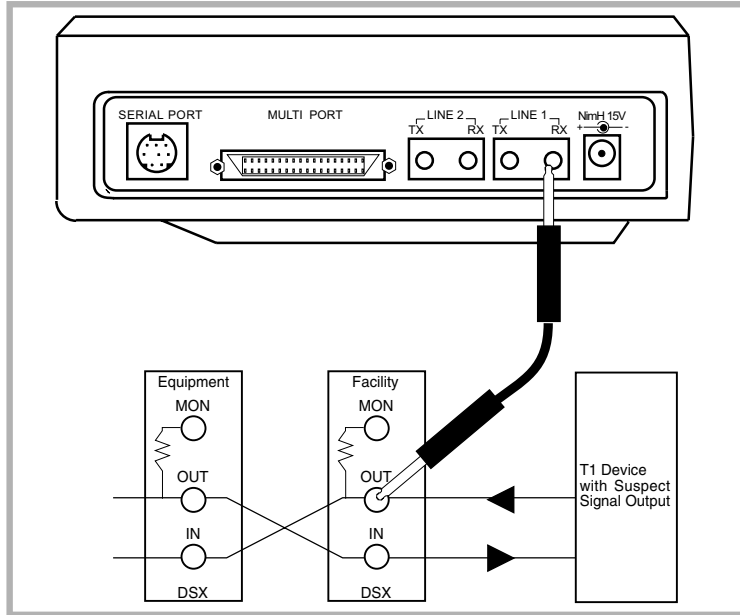

Figure 176 Measuring Signal Level
If there is a signal on the OUT jack, use the setup shown in Figure 176 to measure the level. Otherwise, use the setup shown in Figure 172.
3. Connect the SunSet T10 to the circuit as shown in Figure 176. Press the HISTORY key on the keypad to clear the blinking LEDs.